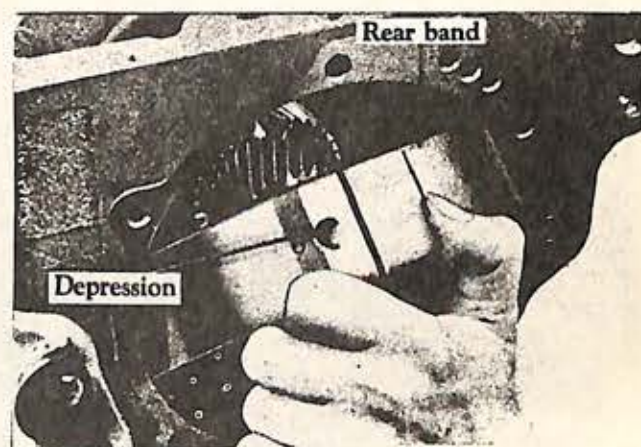

Fig. 53
1. The end of the rear band next to the adjusting screw has a depression in the center boss (Fig. 53). Note the rear band position for reference in assembly.
2. Squeeze the ends of the band together, tilt the band to the rear, then remove the band from the case (Fig. 53).